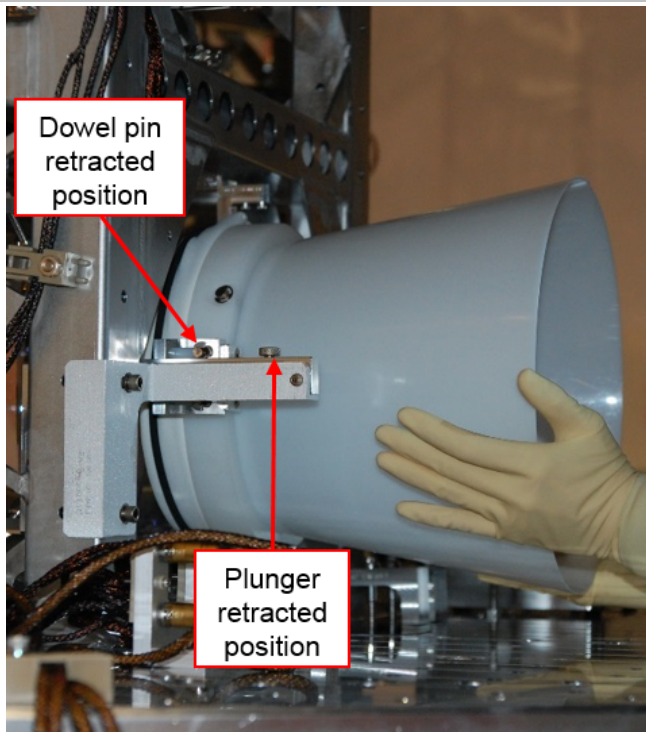
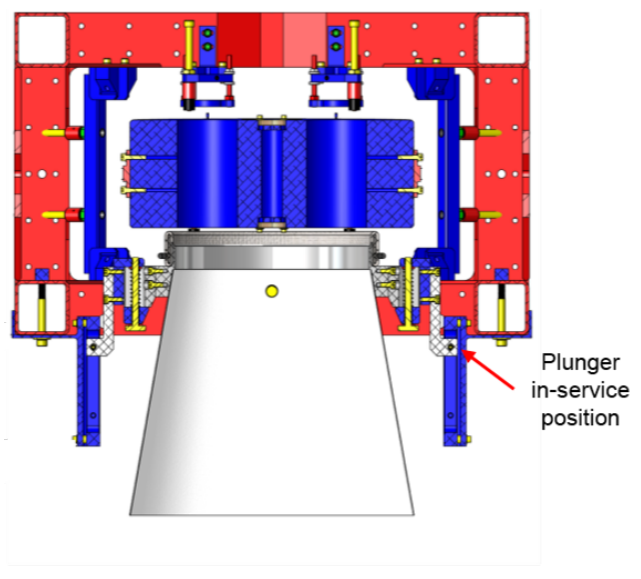

Figure 3. Attaching the HLTS cone in the retracted position to PR3 (side view)
Figure 6. HLTS cone in the in-service position (top view)
- 1) **Lock cone in the "retracted" position.** The cone has two positions – retracted (the furthest distance from the optic) and "in-service" (pressed against the optic), as shown in Figure 3 through Figure 6. The retractable spring plunger is used for coarse position adjustment, and the thumb screw is used for fine adjustment.
Adjusting the thumb screw changes the position of the PTFE guide rail relative to the Aluminum carriage assembly. Back the thumb screw off until the grooved dowel pins cannot be pushed back any further in the threaded block, as shown in Figure 3.